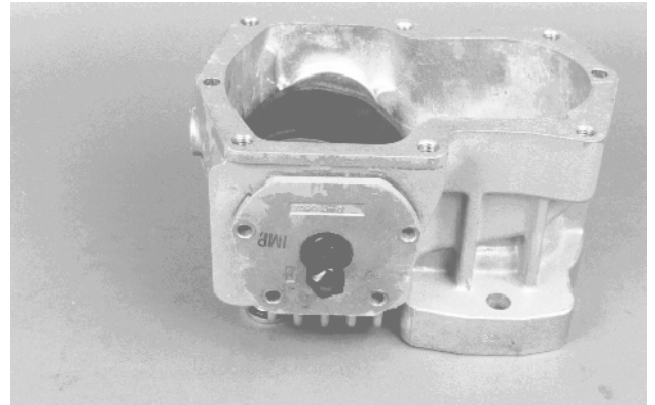

Figure 60
5. Install trunnion seal cover with O-ring, seal and trunnion bearing into housing and over swashplate trunnion (see Trunnion Seal Replacement) (Fig. 60).